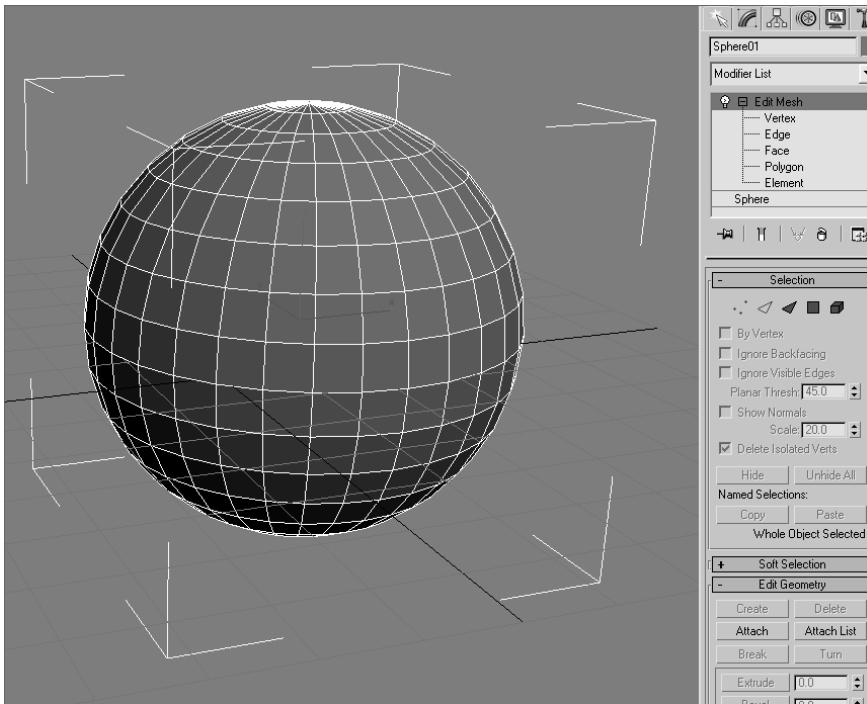

Figure 4.5
4. The Modifier Stack will display a heading called Edit Mesh. Highlight Edit Mesh in the Modifier Stack to see what is shown in Figure 4.5.